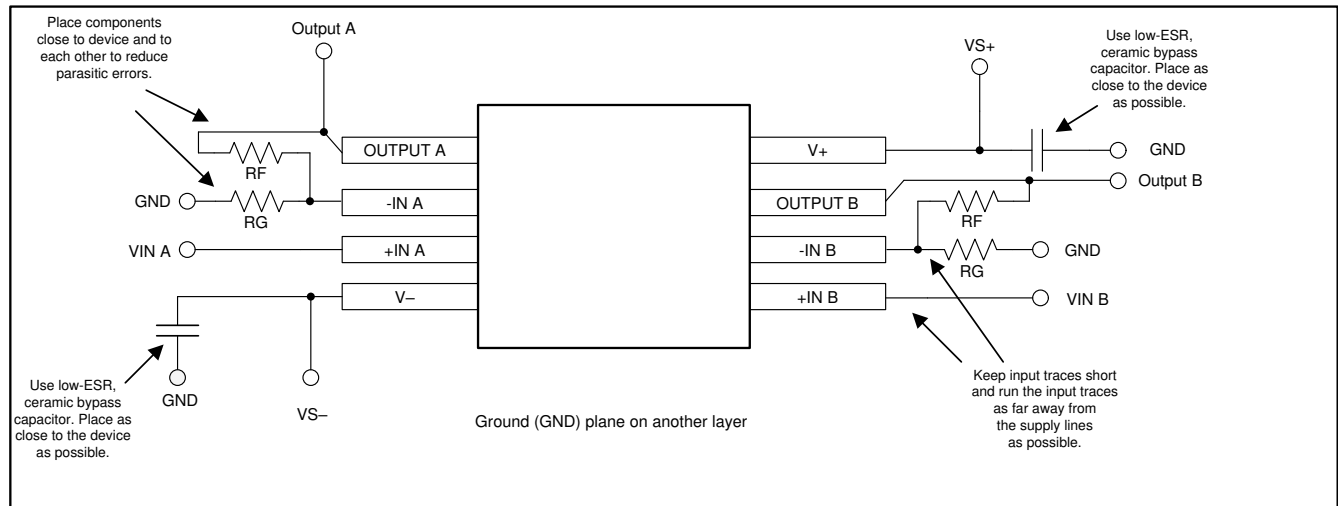

图 10-1. Operational Amplifier Board Layout for Noninverting Configuration
- Place the external components as close to the device as possible. As shown in Figure 10-1, keeping R_F and R_G close to the inverting input minimizes parasitic capacitance.